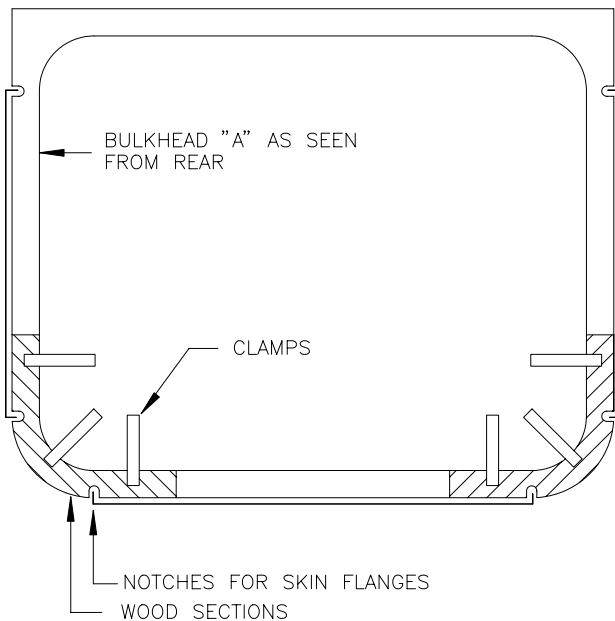

Figure 9.12.2
- 10) Clamp these wood sections to the flat sides of the round corners of bulkhead "A". Figure 9.12.2.